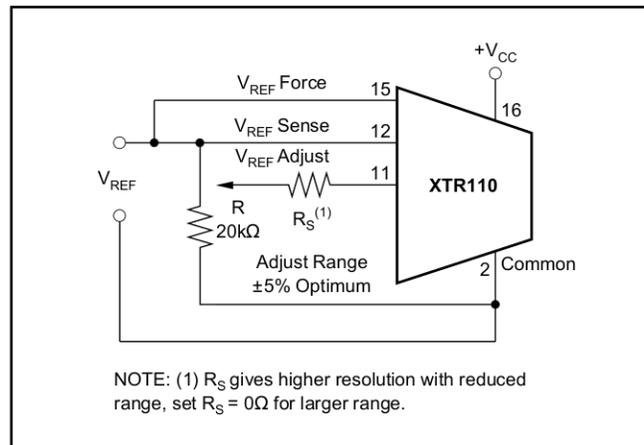
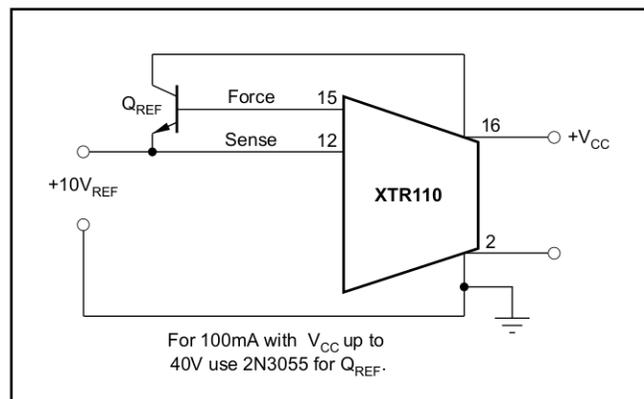

FIGURE 3. Optional Adjustment of Reference Voltage.
FIGURE 4. Increasing Reference Current Drive.
NOTES: (1) Including internal reference. (2) Span is the change in output current resulting from a full-scale change in input voltage. (3) Within compliance range limited by $(+V_{CC} - 2V) + V_{DS}$ required for linear operation of the FET. (4) For V_{REF} adjustment circuit see Figure 3. (5) For extended I_{REF} drive circuit see Figure 4. (5) Unit may be damaged. See section, "Input Voltage Range".
3 should be connected to this point. The circuit in Figure 3 shows adjustment of the voltage reference.
The current drive capability of the XTR110's internal reference is 10mA. This can be extended if desired by adding an external NPN transistor shown in Figure 4.